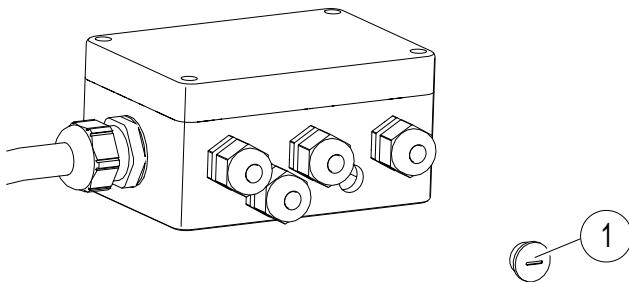

Fig. 50: Example of a terminal box for infeed with sealing plug (item 1)
The terminal boxes (for both variants) are supplied pre-assembled with cable glands for the connection cables. If it is necessary to convert the poles (for example from 5-pole to 3-pole), the enclosed sealing plugs (item 1) must be mounted in the not needed cable gland holes (see fig. 50). The terminal box for connections can be converted into a terminal box for infeeds.